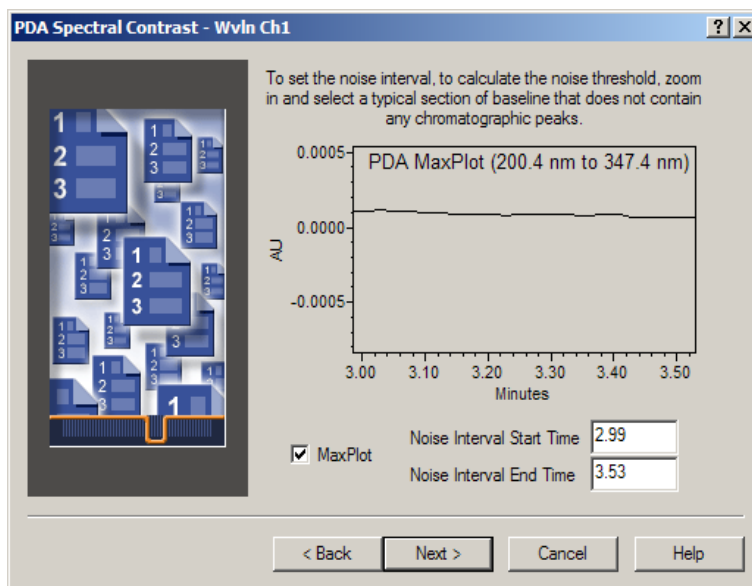

Figure 3-15 Setting the Noise Interval
12. Select the segment of the baseline from approximately 3.00 to 3.50 minutes (Figure 3-15).